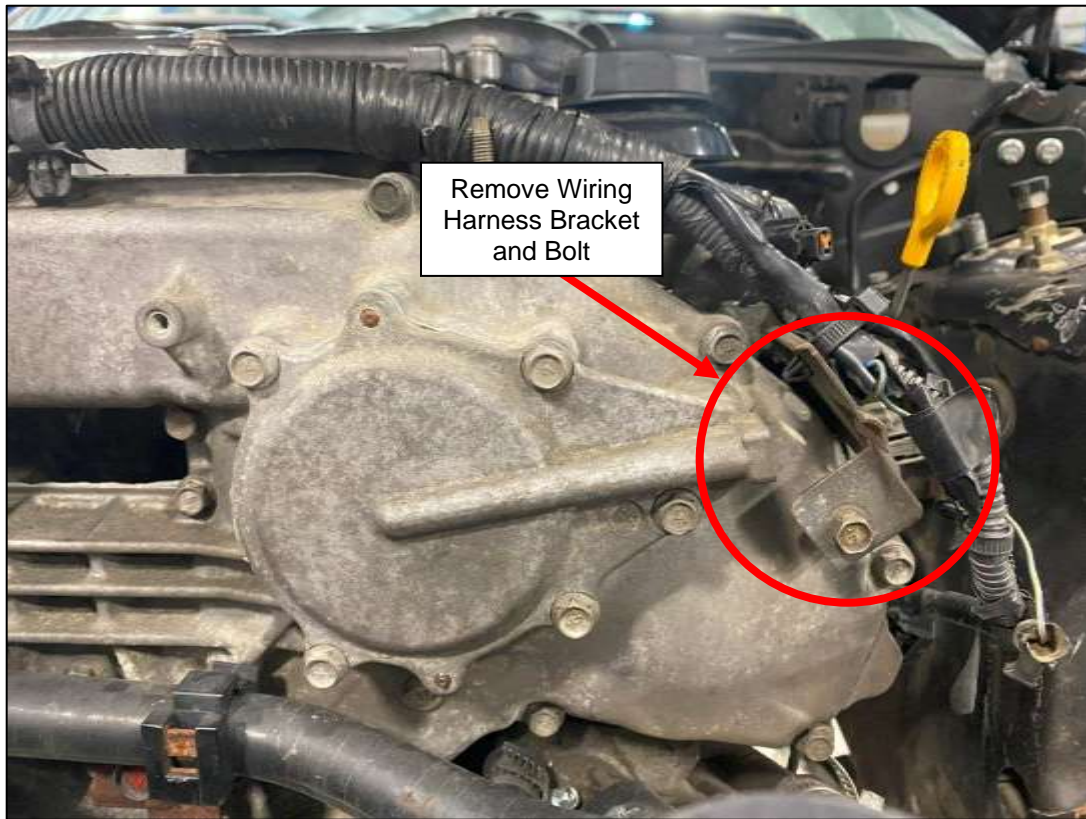

Figure 36
1. Remove the (1) one bolt and Wiring Harness Bracket on the Timing Cover on the Driver Side. The Bracket and bolt will not be reused. *Figure 36.*